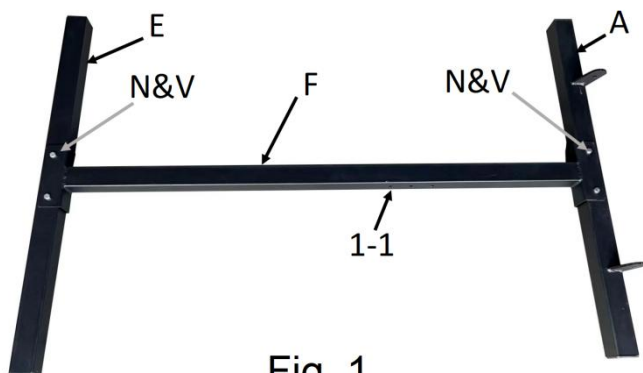

Fig. 1
1. Assemble the Base leg (E) and the base frame (A) to the Connecting Column (F). Insert the end of Connecting Column (F) into the base frame and the Base leg (E) and align the bolt holes. The height adjustment holes (Fig.1 1-1) will be on the inside. Secure each part with a frame bolt (N) and lock nut1 (V).